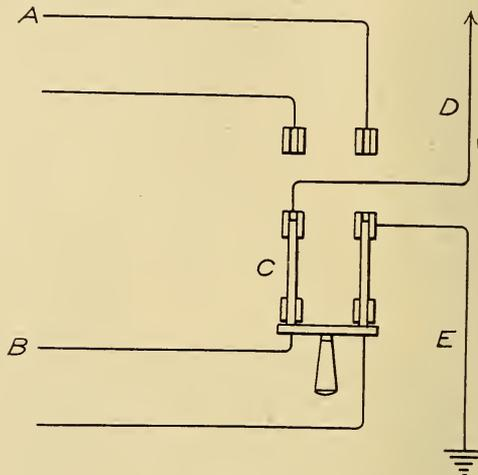

FIG. 24.
The complete arrangement of ground, aerial and switch is shown in Fig. 24 in which (A) leads to the sending trans-